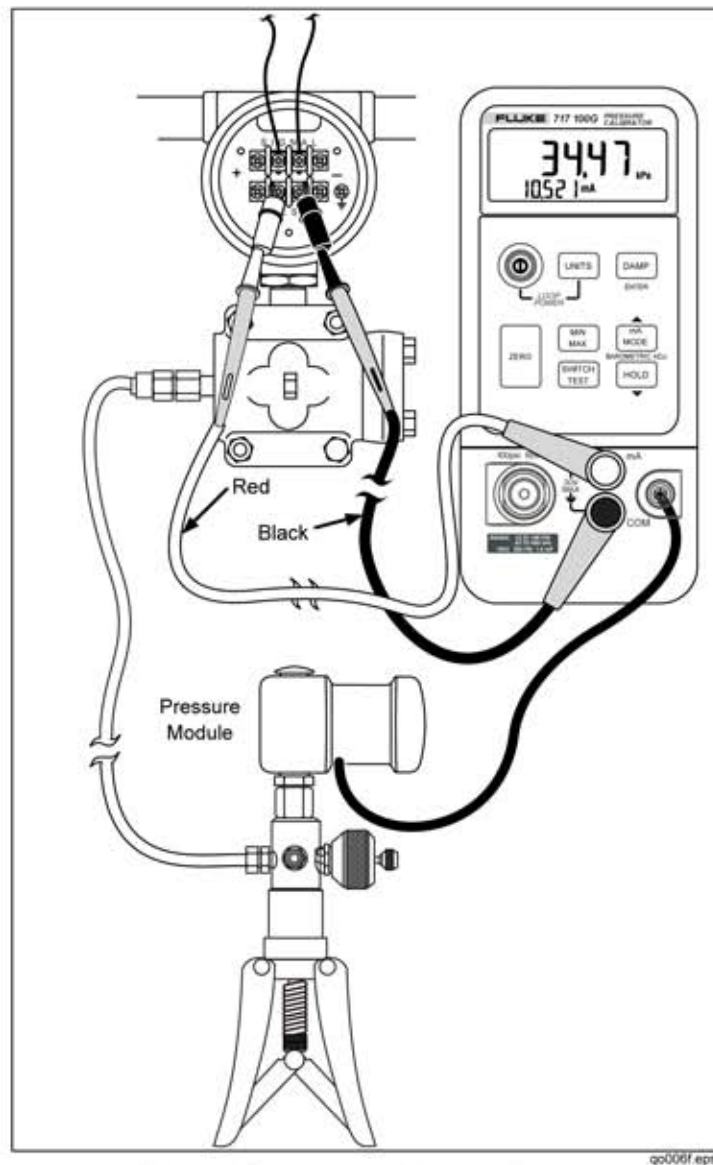
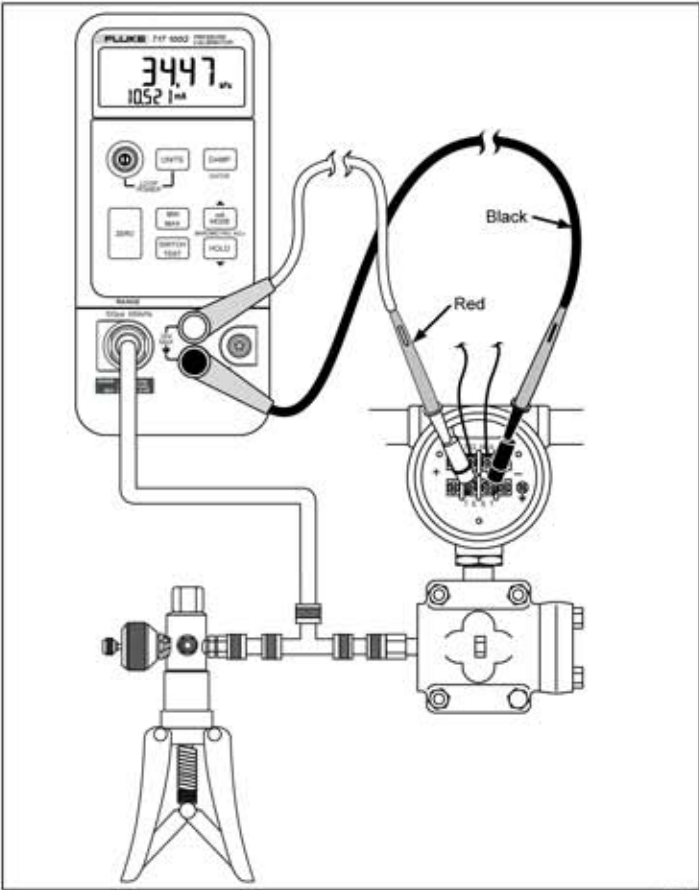

Figure 5. Connecting to a Pressure Module
Figure 4. Connecting to an Internal Pressure Sensor
To replace the battery (see Figure 5):
3. Connect the Calibrator to the transmitter as shown in Figure 4 or Figure 5.